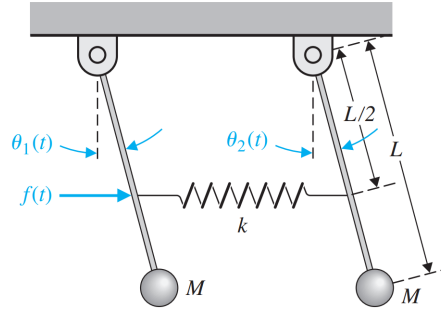

Figure 1: Double-pendulum system
1. Consider the double-pendulum system as shown in Figure 1. In this system two pendulums suspended from frictionless pivots and connected at their midpoints by a spring. Assume that each pendulum can be represented by a mass M at the end of a massless bar of length L . The spring located in the middle of the bars is unstretched when $\theta_1 = \theta_2$. The input force is represented by $f(t)$, which influences the left-hand bar only.